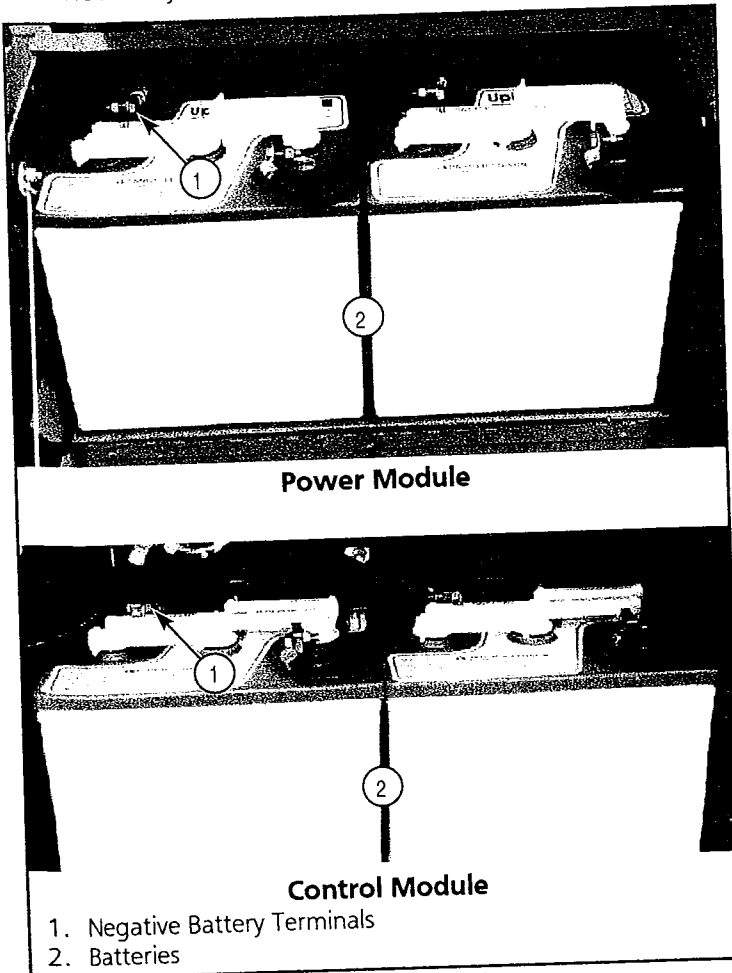

Figure 2-1: Batteries
4. Connect the negative (-) lead terminals to batteries in both modules (Figure 2-1).
3. Disconnect the battery negative (-) leads from the battery terminals (see Figure 2-1).